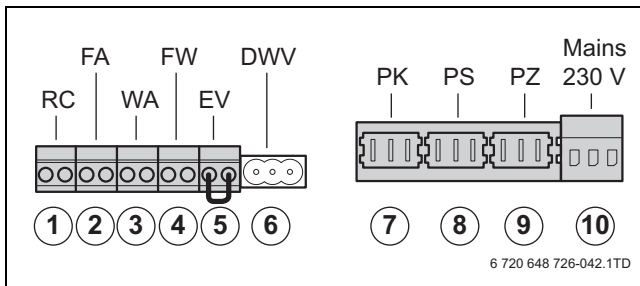

Fig. 42 Terminal strip connections
⚡ DANGER: Danger of fatal accident due to electric shock. Items 1 – 6 are low-voltage connections and items 7 – 10 are 230 V-connections (→ fig. 42).
- ▶ Please be aware that there may be a voltage on items 7 – 10 (230 V), when power is supplied to the boiler.